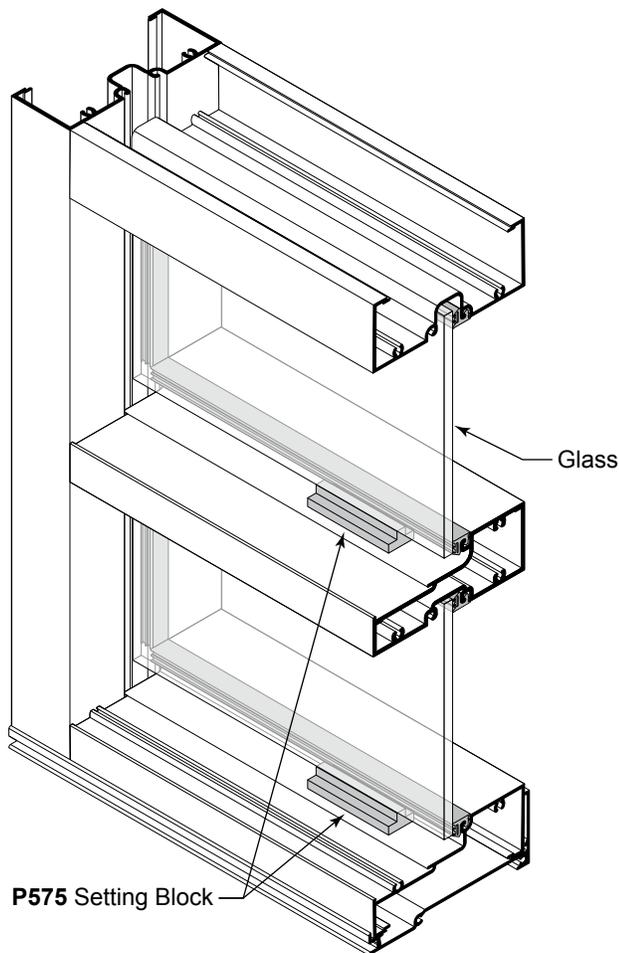

Fig. 37.1
- C. Lower the glass on the setting blocks as shown in **Fig. 37.1**.